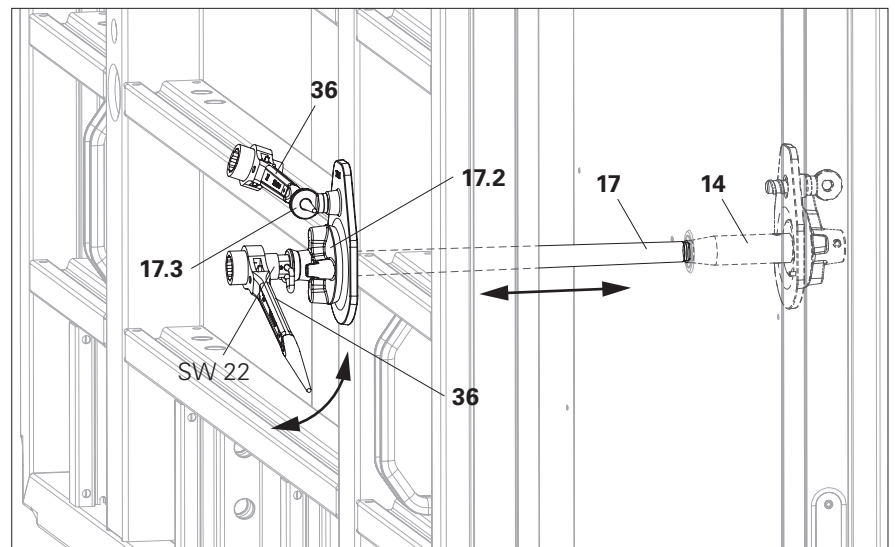
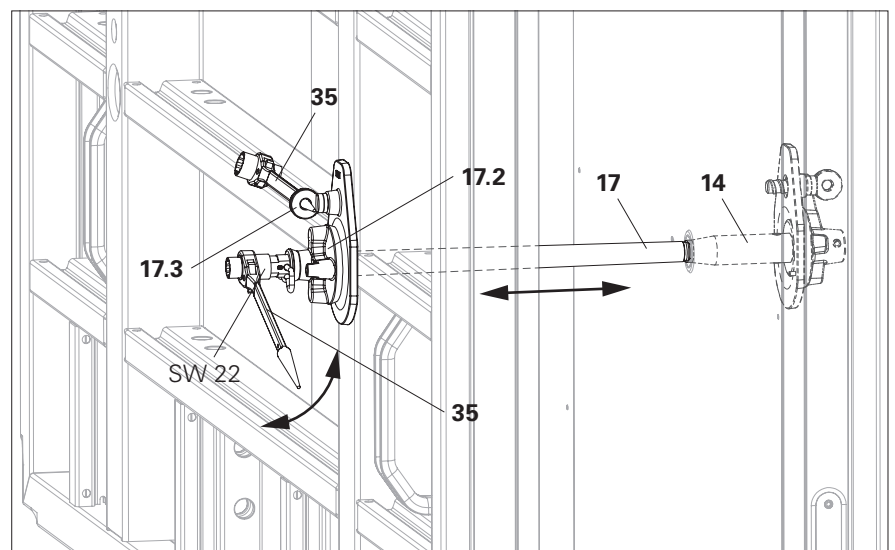

Fig. A6.09
Fig. A6.10
4. Tighten the eyebolt (17.3) with Ratchet MX18 (36) or Scaff. Build. Ratchet SW19/22 (35). (Fig. A6.09/Fig. A6.10)